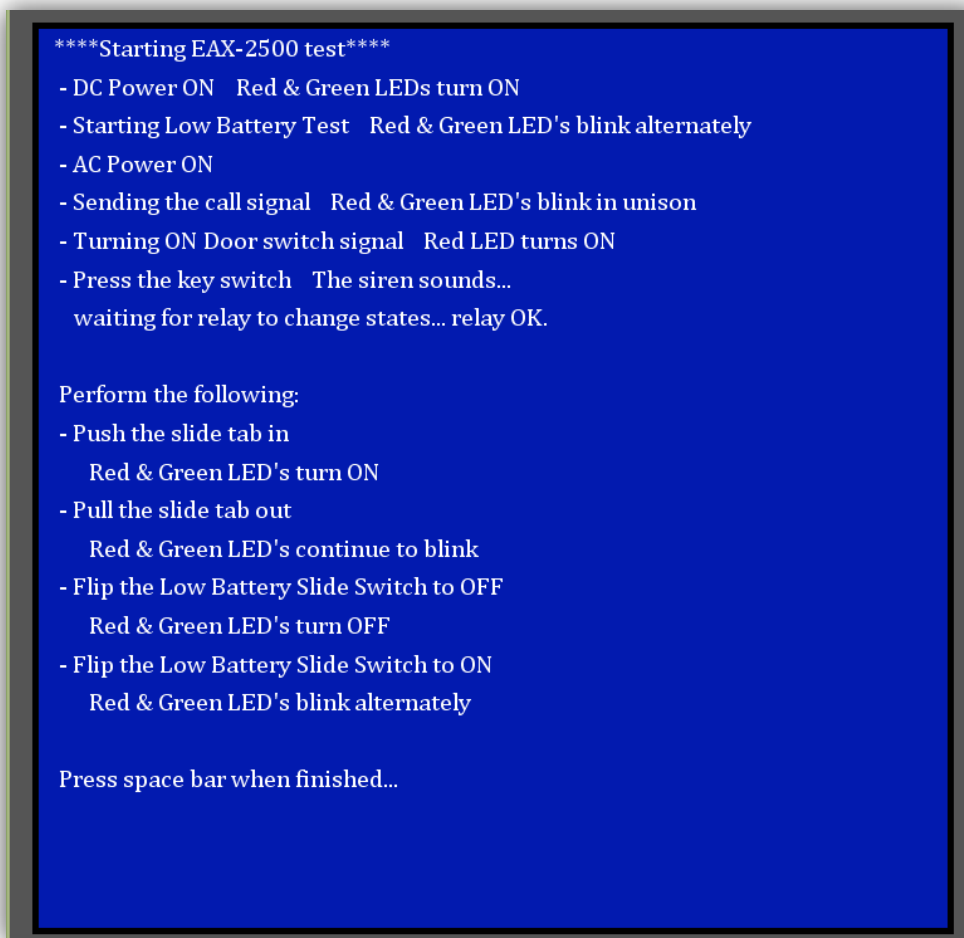

Figure 10
- 5) The last portions of the testing process are manual for which the software will wait until the space bar is pressed to complete the testing. This allows you enough time to complete the displayed instructions before completing the testing procedure (Figure 10).